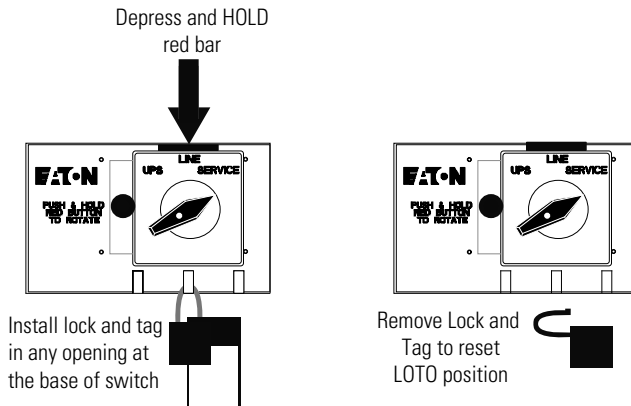

Figure 28. LOTO Feature
- Press and hold the red bar (see Figure 28).